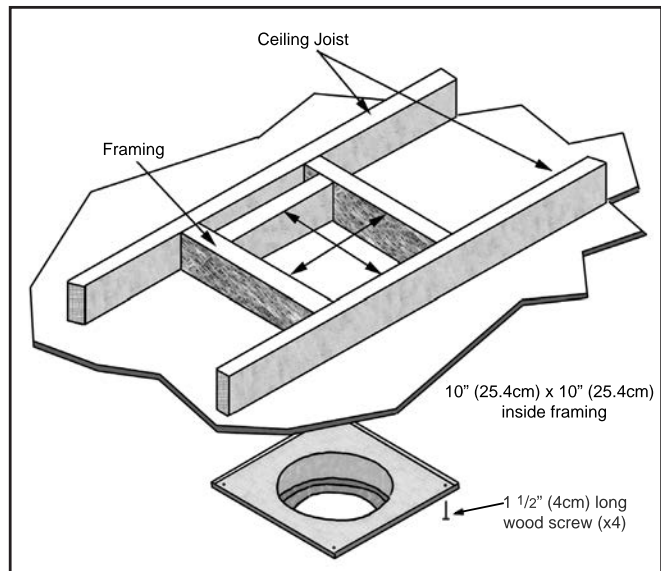

Figure 33: Wall Framing for Hole for Vertical Installation.
3. To install the Round Support Box/Wall Thimble in a flat ceiling, cut a 10" square hole in the ceiling, centered in the hole drilled in Step 2. Frame the hole as shown in Figure 33.